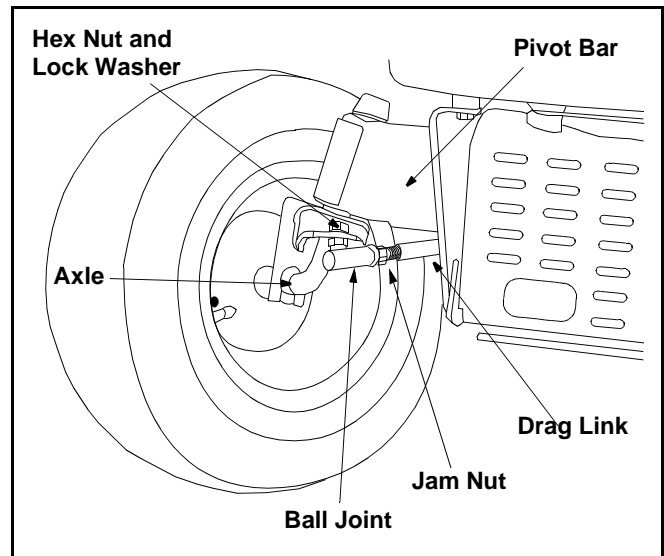

Figure 7
- Loosen the jam nut found on the drag link at the rear of the ball joint. See Figure 7.
- Remove the hex nut and lock washer on the top of ball joint. See Figure 7.